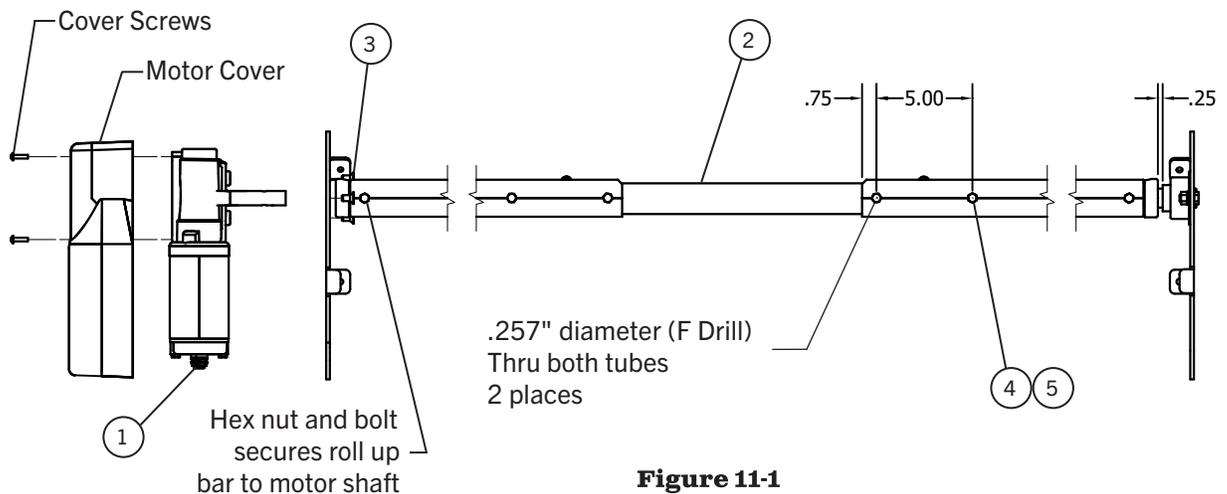

Figure 11-1
- 1) **Figure 11-1.** Fasten Motor Winch "B" (1) to driver's side end plate with 5/16-18 x 5/8 FHCS (3).
- 3) Remove hardware package and tape from center of adjustable electric roll up bar (2), one end is loose and can slide off. Place hardware package to the side.